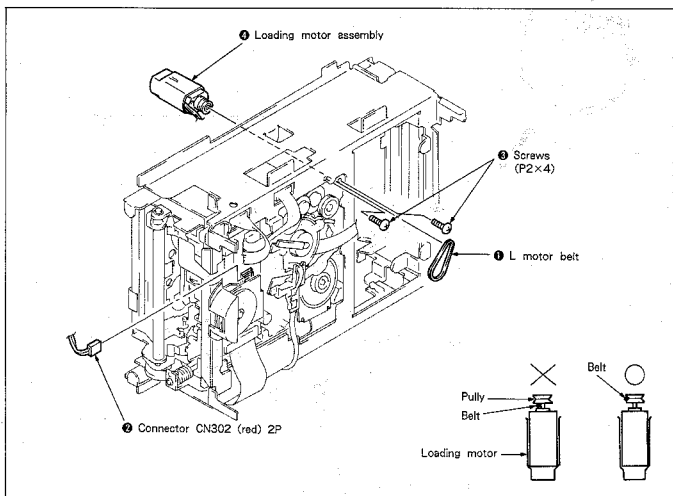

Fig. 7-11.
1. Removal (See Fig. 7-11.)
2. Mounting (See Fig. 7-11.)